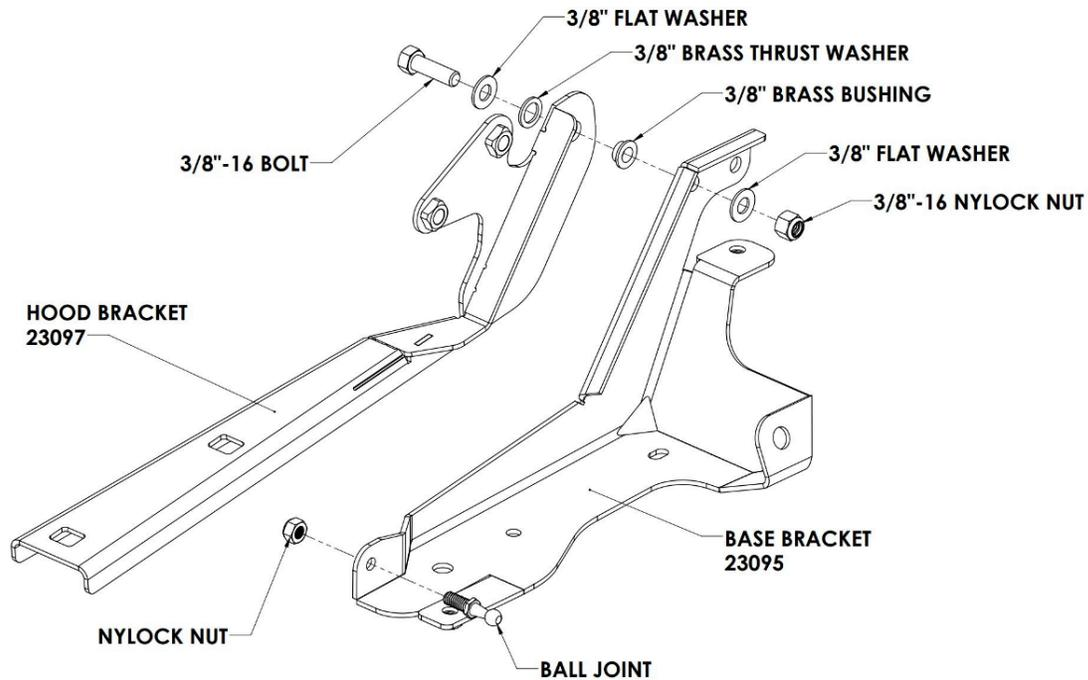

Figure 7
- Install the brass bushing by pressing it into the upper hole in the hood bracket as shown in Figure 7.
- Attach the hood bracket to the base bracket using the 3/8" hex head bolt with flat washers, thrust washer and nylock nut as shown in Figure 7.